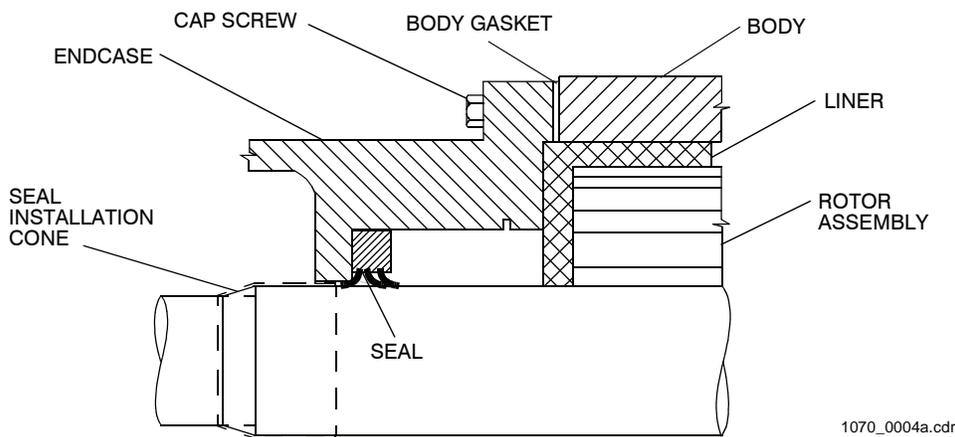

Figure 2-4. Single Lip Seal Installation
2. Install lip seals (19, Figure 4-1) in seal bores of endcases (15). Press seals all the way to the bottom of the bore as shown in Figure 2-4. We recommend using an arbor press to seat the seals. Installation tools are available from Edwards-Pentair Water.
3. Pre-lubricate grease seals (14) with approved grease (7, Table 2-1).
Lip seals have two lips on one side and one lip on the other side. The side with two lips must face toward pump body as shown in Figure 2-4.